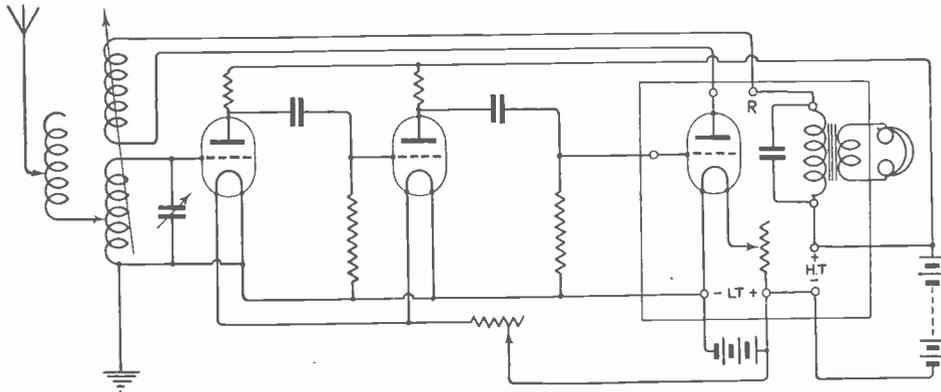

Fig 3.
(1) This can be done. See diagram Fig. 3.
(2) The diagram you submit is as clear as any we could give you.
(1) For a big range like this you will require a set of honeycomb coils, the biggest of which should have about 400 turns with a mean diameter of 3", and the smallest can have about 30 turns, mean diameter 2".
(2) One H.F., one detector and one L.F. is a very good arrangement. Two H.F. alone is probably the best way of using two valves. Two L.F. alone is rather poor.
(3) See Fig. 3, page 640, January 7th issue,